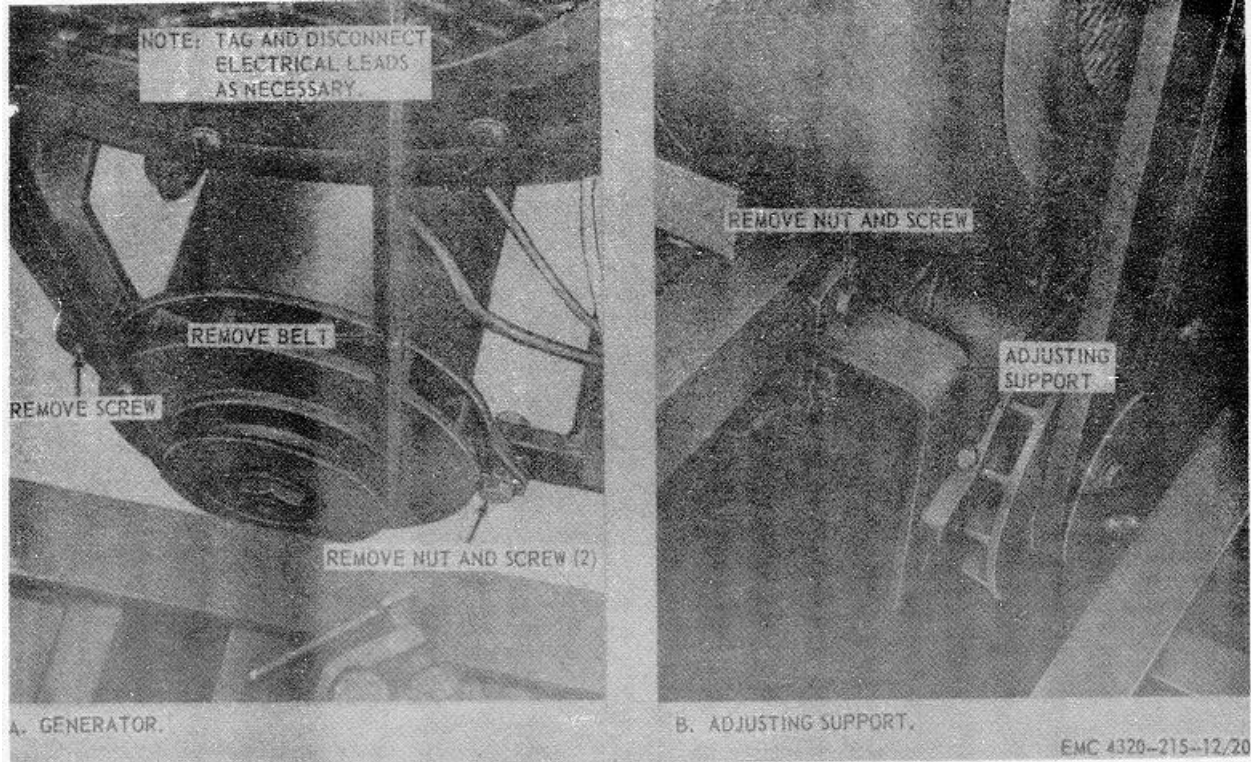

Figure 20. Generator and adjusting support, removal and installation.
c. Remove and install the generator and adjusting support as shown by figure 20.